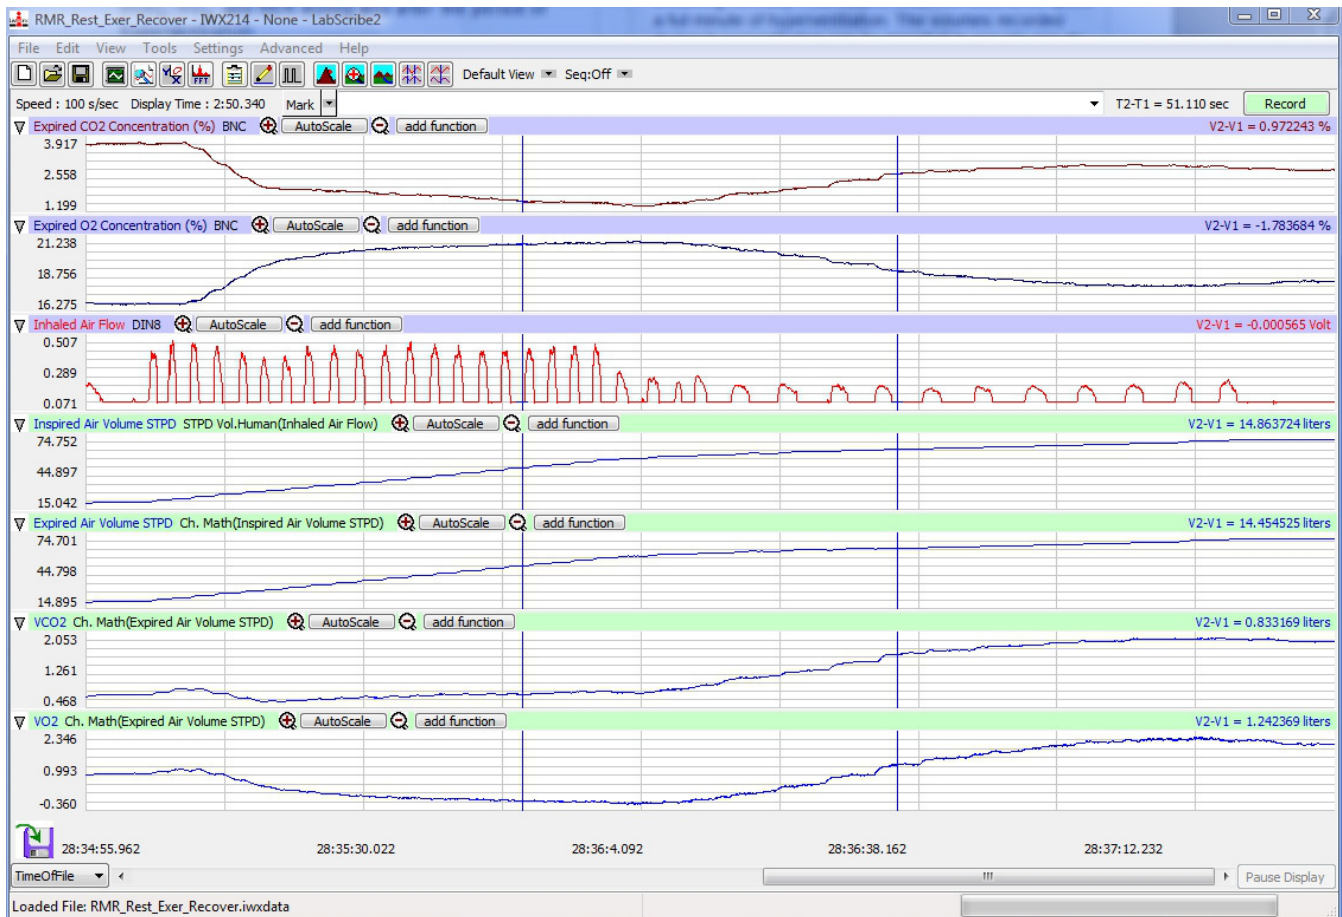

Figure HE-4-L4: Recording of gas concentrations and lung volumes from a hyperventilating subject. Hyperventilation is followed by the recovery period.
3. Click on the Calculate button on the left side of the Metabolic Calculations Dialog window to calculate the average value of each parameter listed in the table for each time segment of the recorded data, and to plot the selected parameters against each other in the plot panel (Figure HE-4-L5).